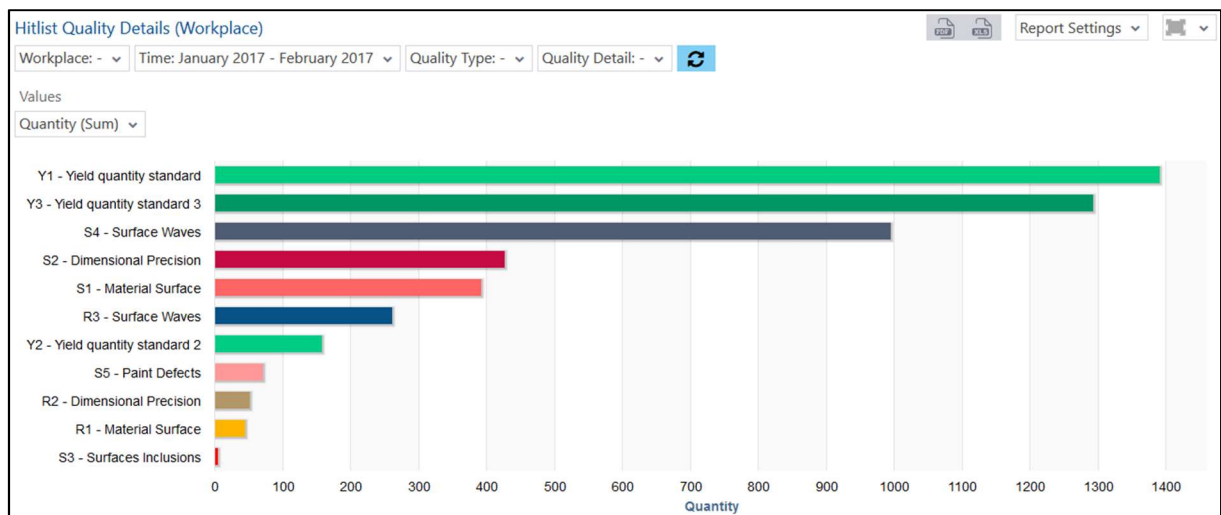

Fig. 105: Hitlist Quality Details (Workplace) as a bar chart
- Hitlist Quality Details (Workplace) as a bar chart (Fig. 105):